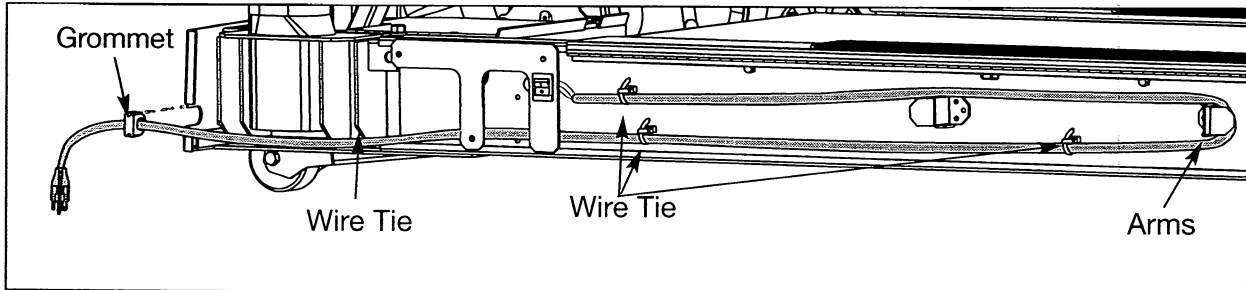

Figure 10
- b. Slide the grommet into the front exit hole with the curved end first. See Figure 10.
- c. Wire tie the cord down. See Figure 10.